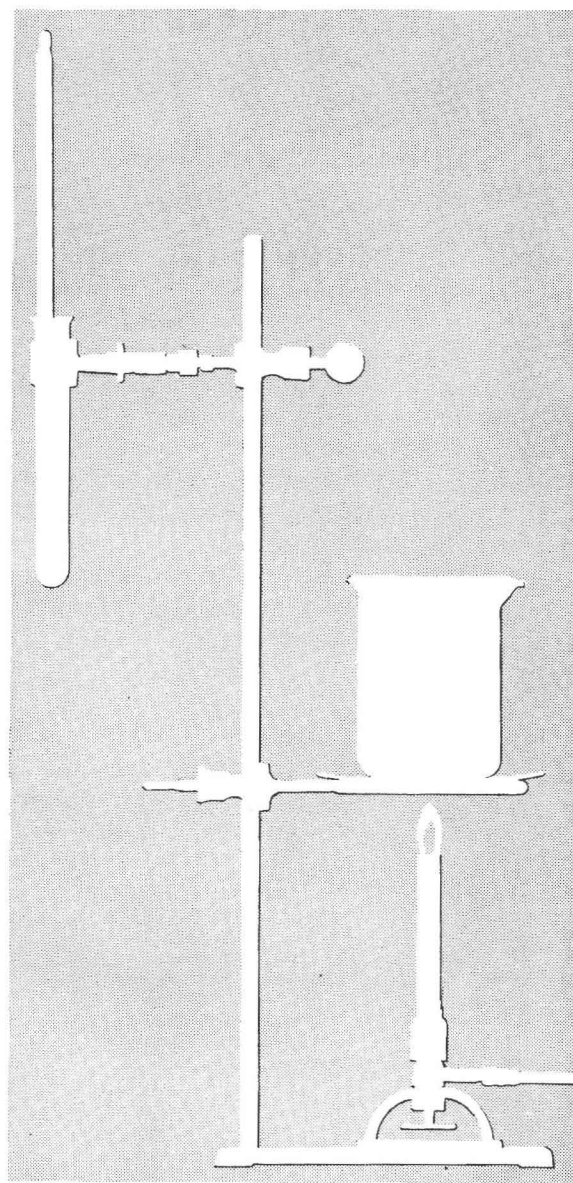

Fig. 3-3. Apparatus for observing the warming behavior.
- a. Raise the test tube out of the water bath and turn the clamp around so the test tube is on the other side of the ring stand, opposite the water bath, as shown in Fig. 3-3. Place the beaker, three-fourths full of water, on an iron ring and wire gauze. Heat the water bath to approximately  $70^{\circ}\text{C}$  (start with hot tap water, if available, to save heating time), then turn off the burner, but leave it in position.